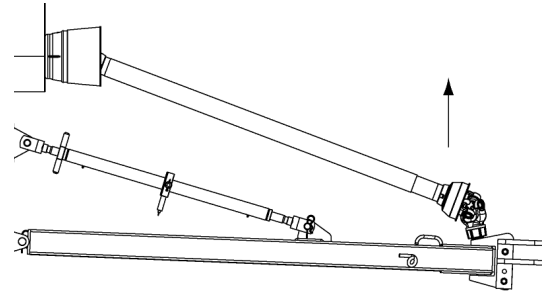

Figure 19 - Released driveshaft
1) Release the end of the driveshaft from its support on the bagging machine towbar as shown in Figure 19.